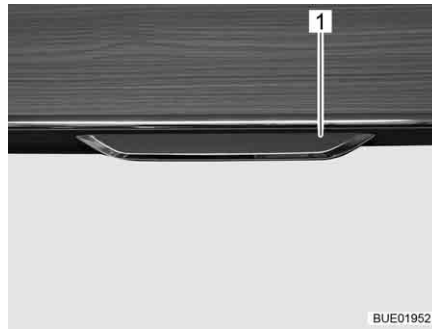

Fig. 60 Furniture flap with release handle
- Pull the release handle (Fig. 60,1) outwards.